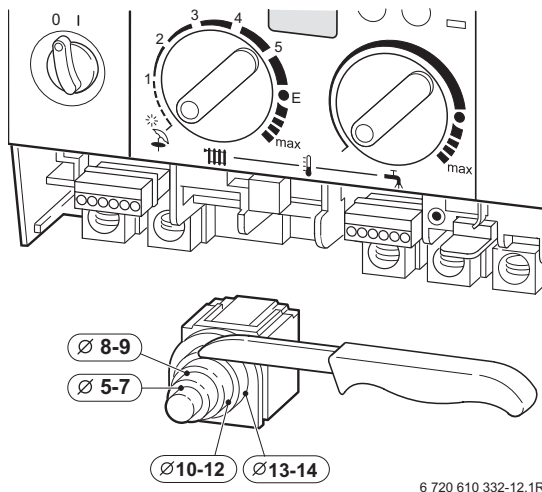

Fig. 26
- ▶ To make splash-water proof (IP): cut the cable grommet hole size to match diameter of cable, see Fig. 26.